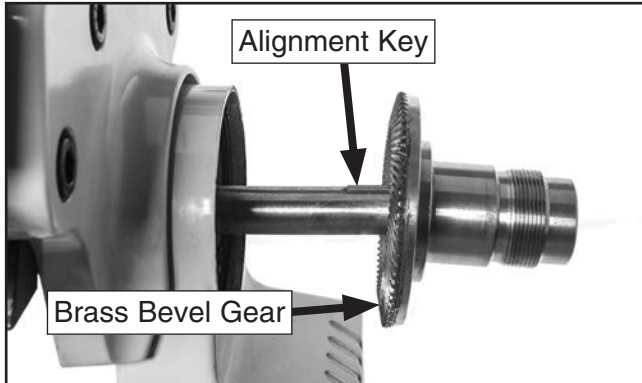

Figure 77. Power feed brass gear and leadscrew alignment key.
- Remove brass bevel gear from leadscrew, making sure not to lose alignment key (see **Figure 77**).